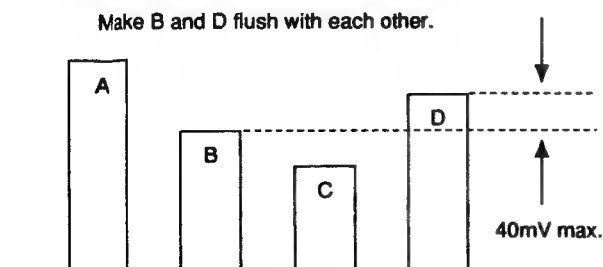

Fig. 5-27
- 2) Connect the probe of an oscilloscope to IC404 ⑩ PIN or TP402.
- 4) Adjust **CHROMA PAL NOR** so that the peaks of waveforms will be flush with each other. (Fig.5-27)
- 2) Adjust **CHROMA PAL ACC OFF** in the same way as 10-15-4).(Fig.5-27)